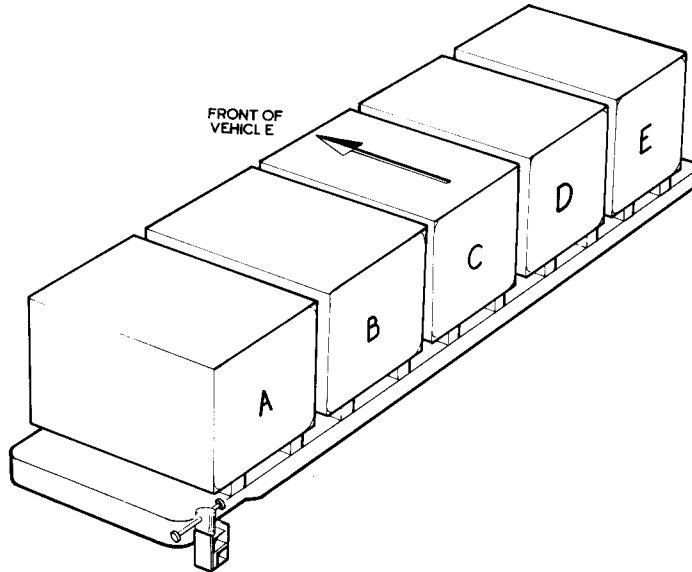

Fig. 5 Radio table equipment mounting positions
2.1 The radio set may be mounted in any one of five positions on the radio table (A to E in fig. 5). The centre position on the radio table (position C in fig. 5) is the preferred position for single set installations. When the set is part of a multiset installation however the number of positions available for the radio equipment will be restricted. Suitable positions for use in multiset installations are given in Part 8 Supplement 1, together with any special instructions.